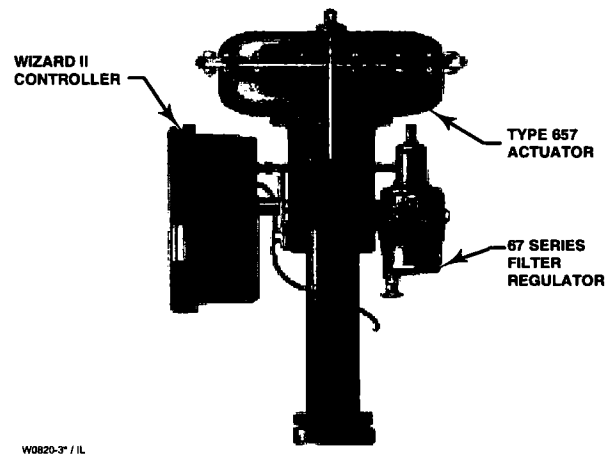

Figure 9. Typical Yoke Mounting
A Wizard II controller or transmitter normally comes installed on a final control element or indicating device or equipped for separate surface or pipestand mounting. Usually, a control valve with just a controller or transmitter and one supply regulator has the controller/transmitter and regulator yoke-mounted on opposite sides of the actuator as shown in figure 9. Nipple mounting of the supply regulator (if desired) is available. Specify such mounting if the opposite yoke boss of an actuator will be occupied by a positioner.
Design V150: ■ 14, ■ 16 and ■ 20-Inch: Flanged raised-face valves. 14 and 16-inch valves are available in ASME B16.10 Short, face-to-face dimensions only (see table 1 and figure 9)
■ ASME B16.10 short face-to-face dimensions are available as an option for 1- through 12-inch valves. Note that ASME B16.10 short dimensions are actually longer than ISA S75.04. See figure 9 for dimensions.